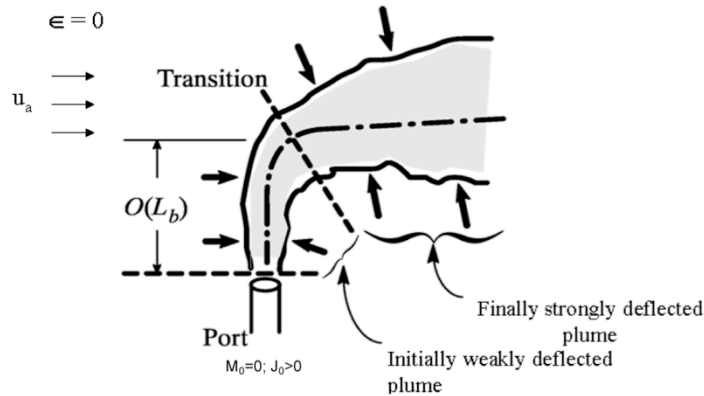

Figure 2-4: Pure (or thermal) Plume in Uniform Crossflow
- Figure 2-4 shows “**pure plume**” or “**thermal**” in crossflow